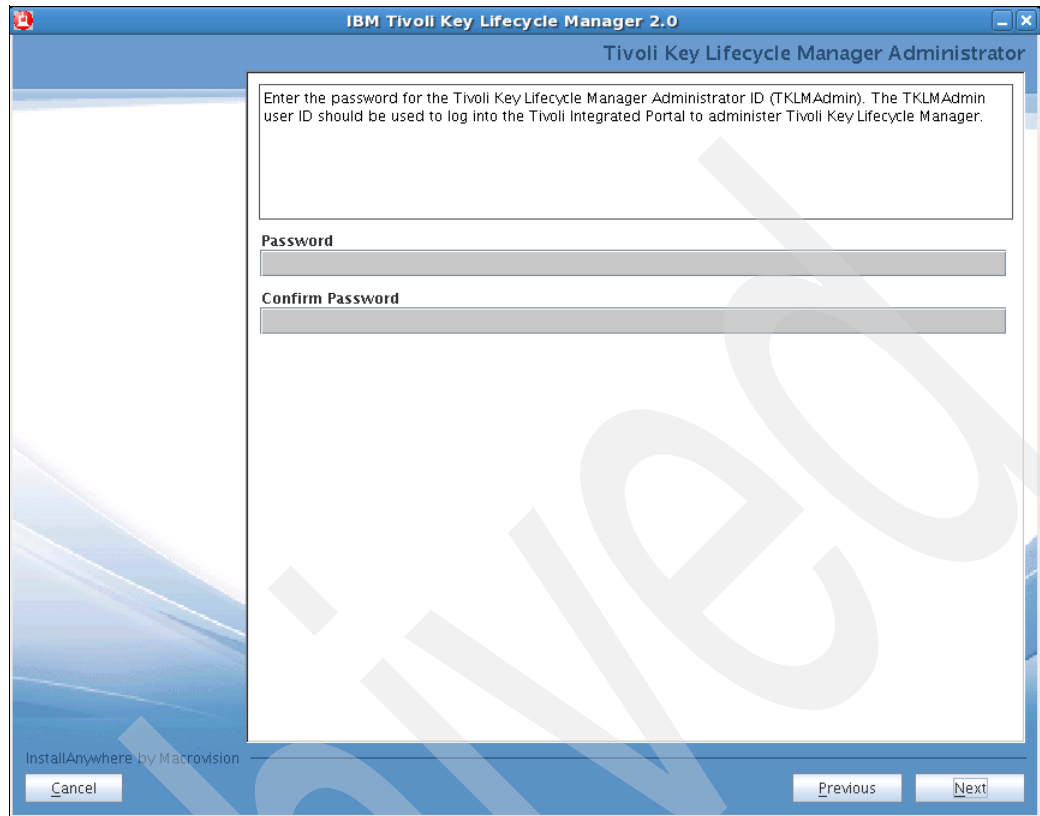

Figure 7-16 TKLMAdmin password
19. Type your TKLMAdmin password on the screen shown in Figure 7-16 and click **Next**.